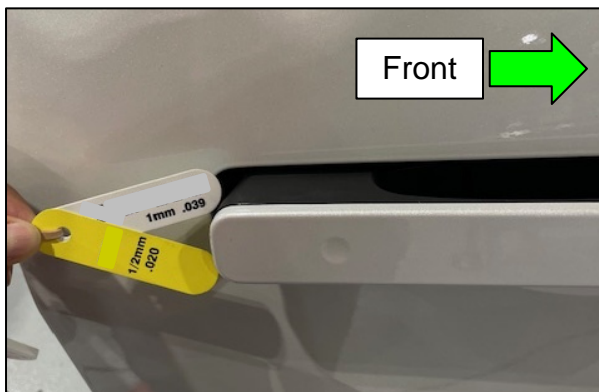

Figure 18
- Carefully attempt to insert a 1.5 mm Non-metallic Clearance Measurement Gauge approximately 4mm into the rear gap between the Outside Door Handle and Door as shown in Figures 18 and 19.